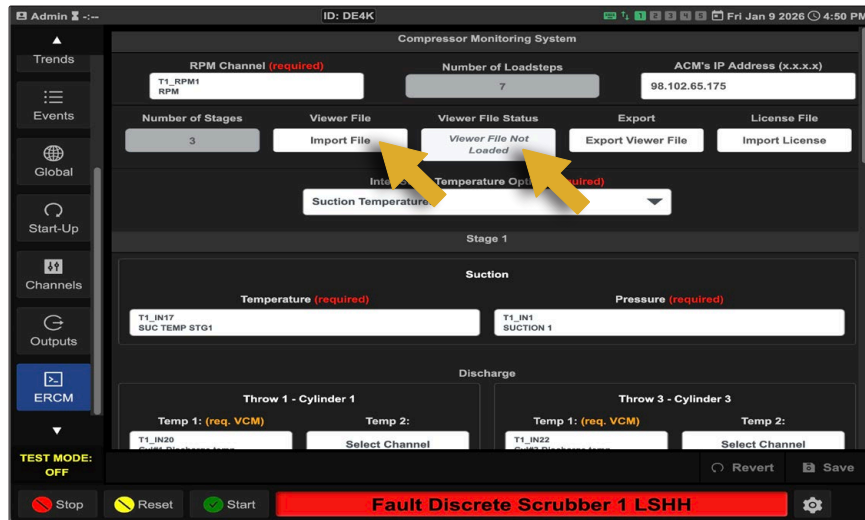

Figure 5
1. When step 3.1 is complete, you will see the eRCM setup screen. See *Figure 5*. This screen is where you will perform initial setup steps to configure the eRCM Express DE/ACM-4000 System to work with the compressor.
4. If the Viewer File was not pre-installed, you will see **Viewer File Not Loaded** (see *Figure 5*):